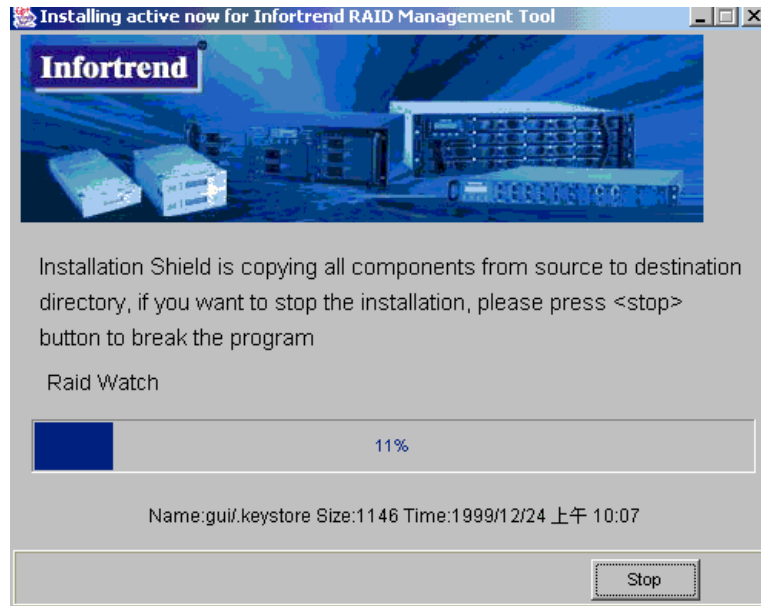

Figure 2-11: Installing Active
-  **Step 2.** If the *Next* button from *Figure 2-11* was selected, the Install Active window shown in *Figure 2-12* will appear. If you wish to stop the installation procedure, then click the *Stop* button. If you wish to continue installing the Applet components, allow the installation shield to continue through the rest of the procedure.